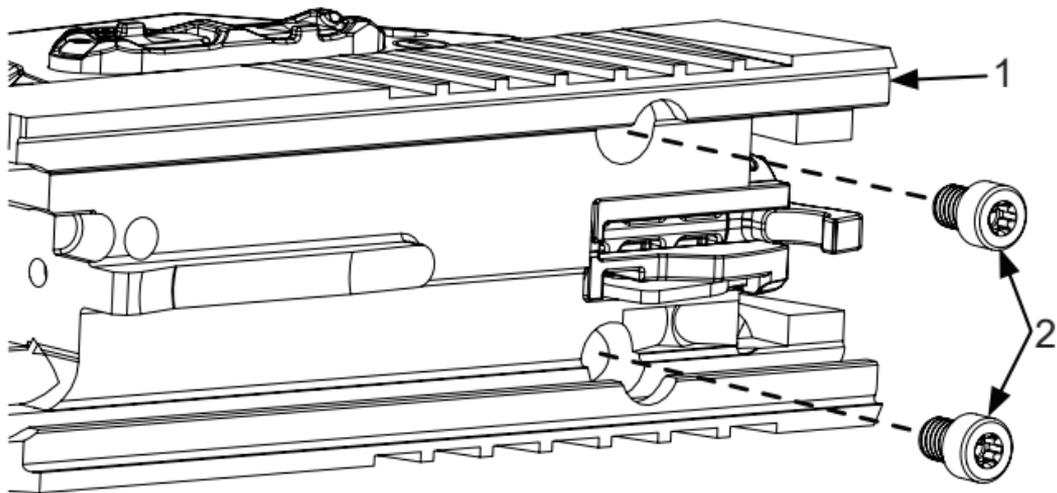

Figure 10. Install Optic Mounting Screws.
10. Degrease optic mounting screw threads (Figure 10, Item 2) then apply threadlocker.
11. Using a T8 Torx Install new optic mounting screws (Figure 10, Item 2) through slide (Figure 10, Item 1) into optic housing then tighten to 20 in-lbf.